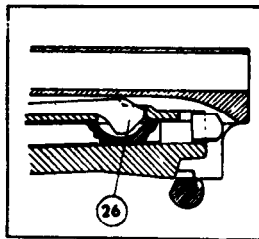
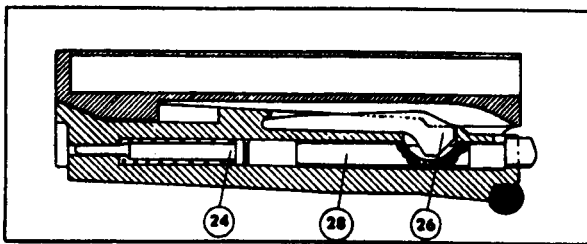

Fig. 15.
Fig. 16.
2° The second safeguard is performed by means of a firing pin stop (26) which prevents the striker to protrude in the face of the bolt so long as the locking of the rifle is not performed, as the bolt carrier prevents any motion of the firing pin stop upwards (see fig. 15). On the contrary, when the rifle is locked, the firing pin stop is allowed to raise and does no more prevent the motions of the firing pin (see fig. 16).